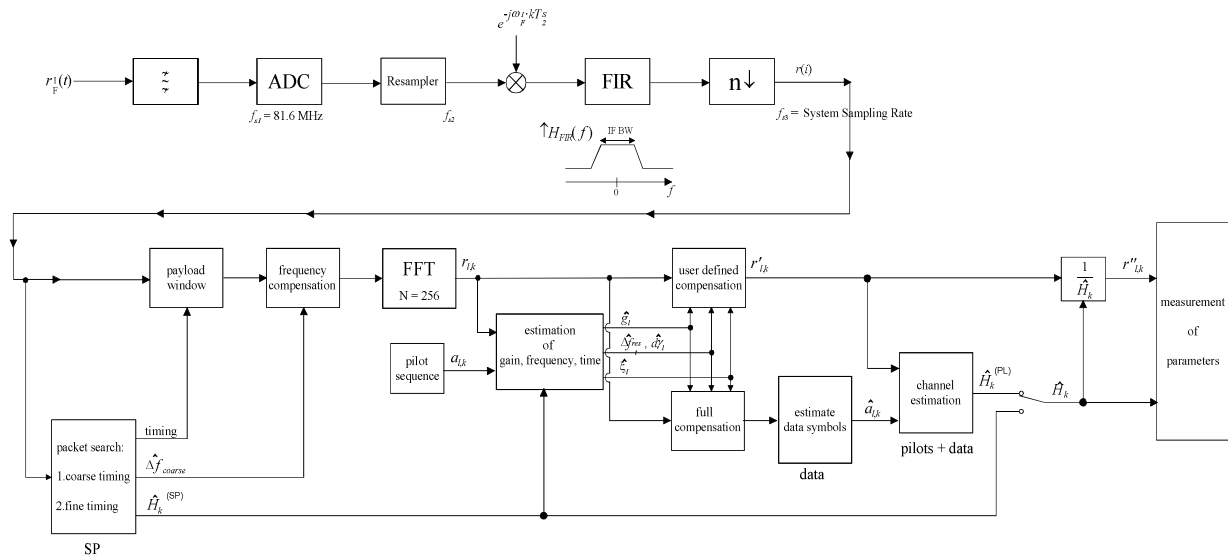

Fig. 2-90 Signal processing of the IEEE 802.16 OFDM measurement application
A diagram of the interesting blocks is shown in Fig. 2-90. First the RF signal is down-converted to the IF frequency  $f_{IF} = 20.4$  MHz. The resulting IF signal  $r_{IF}(t)$  is shown on the left-hand side of the figure. After bandpass filtering, the signal is sampled by an Analog to Digital Converter (ADC) at a sampling rate of  $f_{s1} = 81.6$  MHz. This digital sequence is resampled to the new sampling frequency of  $f_{s2} = 80$  MHz which is a multiple of the Nyquist rate (20 MHz). The subsequent digital down-converter shifts the IF signal to the complex base band. In the next step the base band signal is filtered by a FIR filter. To get an idea, the rough transfer function is plotted in the figure. This filter fulfils two tasks: first it suppresses the IF image frequency, secondly it attenuates the aliasing frequency bands caused by the subsequent down-sampling. After filtering, the sequence is sampled down by the factor of 4. Thus the sampling rate of the down-sampled sequence  $r(i)$  is the Nyquist rate of  $f_{s3} = 20$  MHz. Up to this point the digital part is implemented in an ASIC.
In general, the coarse frequency estimate  $\hat{\Delta f}_{\text{coarse}}$  (see Fig. 2-90) is not error-free. Therefore the remaining frequency error  $\Delta f_{\text{rest}}$  represents the not yet compensated frequency deviation in  $r_{l,k}$ . Consequently the overall frequency deviation of the device under test (DUT) is calculated by  $\Delta f = \hat{\Delta f}_{\text{coarse}} + \Delta f_{\text{rest}}$ . Remark: The only motivation for dividing the common phase drift in equation (11) into two parts is to be able to calculate the overall frequency deviation of the DUT.